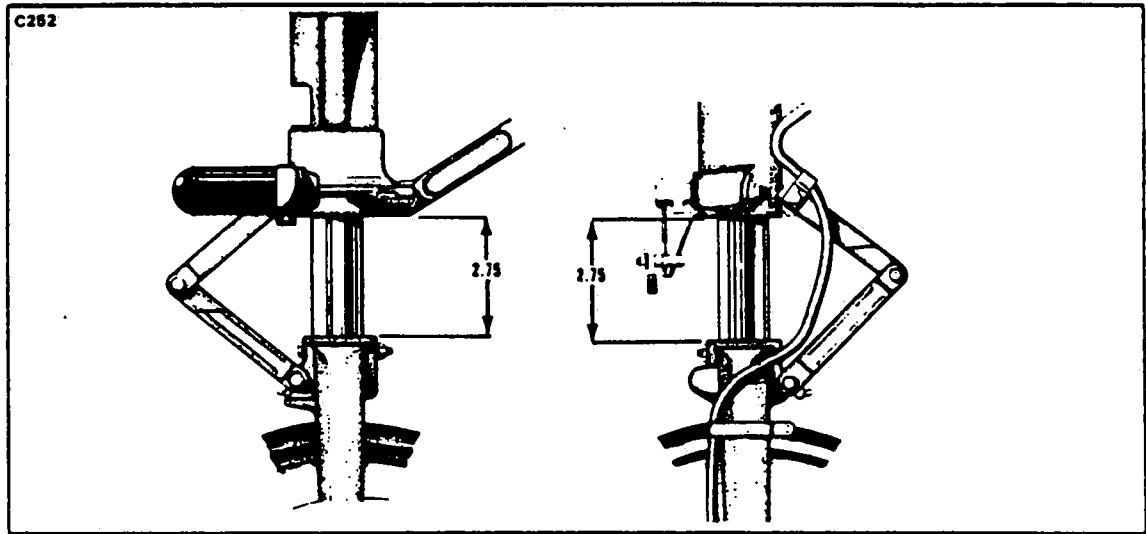

Figure 2-14. Servicing Landing Gear Struts
**2-34. SERVICING OLEO STRUTS.** The air-oil type oleo strut should be maintained at proper strut tube exposures for best oleo action. Both the nose and main gear struts must have approximately 2.75 inches of piston tube exposed. (Refer to Figure 2-14.) These measurements are taken with the airplane sitting on level surface under normal static load. (Empty weight of airplane plus full fuel and oil.) If the strut has less tube exposure than prescribed, determine whether it needs air or oil by rocking the airplane. If the oleo strut oscillates with short strokes (approximately one inch) and the airplane settles to its normal position within one or two cycles after the rocking force is removed, the oleo strut requires inflating. Check the valve core and filler plug for air leaks, correct if required, and add air as described in paragraph 2-36. If the oleo strut oscillates with long strokes (approximately three inches) and the airplane continues to oscillate after the rocking force is removed, the oleo struts require fluid. Check the oleo for indications of oil leaks, correct if required, and add fluid as described in paragraph 2-35. For repair procedures of the landing gear and/or oleo struts, refer to Section VII.